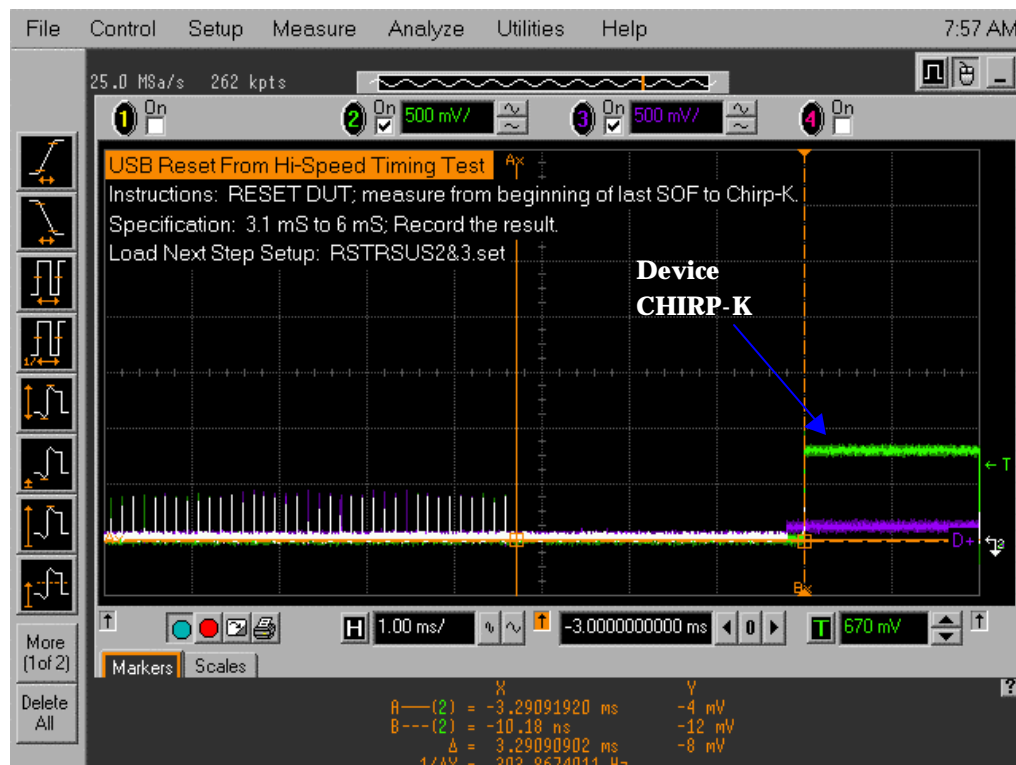

Figure 25. Device CHIRP-K in Response to Reset from Hi-Speed
- b. The captured reset response should appear as in Figure 25.